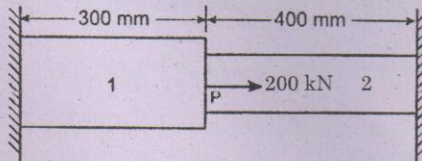

Fig.12(a)
12. (a) Consider a bar as shown in Fig 12(a). An axial load of 200 kN is applied at point  $p$ . Take  $A_1 = 2400 \text{ mm}^2$ ,  $E_1 = 70 \times 10^9 \text{ N/mm}^2$ ,  $A_2 = 600 \text{ mm}^2$ ,  $E_2 = 200 \times 10^9 \text{ N/mm}^2$ . Calculate the following, (i) The nodal displacement at point  $p$ , (ii) Stress in each element (iii) Reaction force. (16)